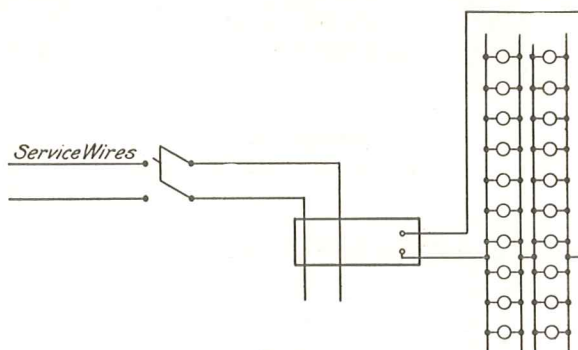

Fig. 6
- (4) POLARINE—That the Standard Oil Company appreciates the value of electric signs is shown in this case. 756 5-watt lamps are used in this sign which is located in Atlanta, Ga.
- (5) OTIS ELEVATOR COMPANY—This sign is lighted with 1500 10-watt EDISON MAZDA sign lamps. These lamps are wired two in series across 220 volts, the wiring being similar to that shown in Fig. 6.
Whenever these lamps are wired in series multiple, as shown in Fig. 6, it is recommended that not less than 20 lamps be used in each group, thus making a minimum of 40 lamps in the sign. When a comparatively large number of lamps are used the failure of any one lamp will not unbalance the circuit to any great extent.